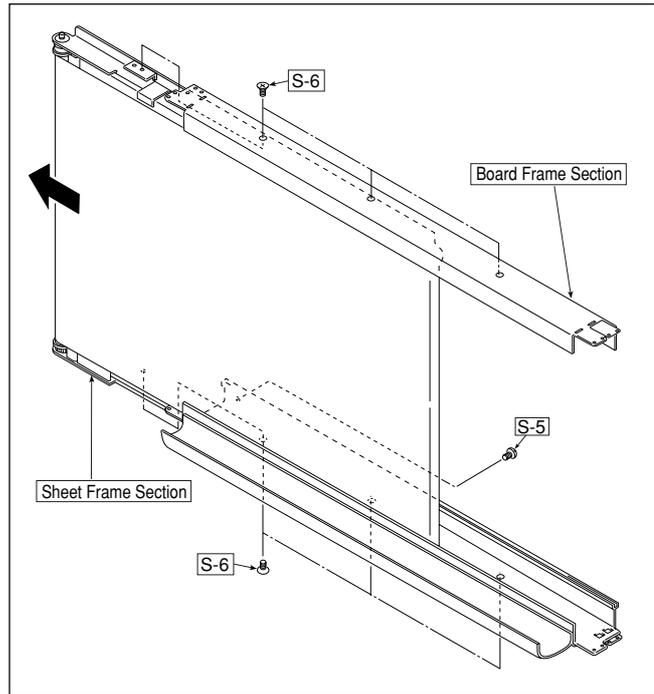

Fig. 7
(See Figures 7 and 8.)
2. Remove the "S-5" screw shown in Figure 7. (Tightening torque: 4.5kgfcm)
3. Remove the "S-6" screw shown in Figure 7. (Tightening torque: 10.0kgfcm)
4. Slide the Sheet Frame Section from the Board Frame Section in the direction indicated by the arrow shown in Figure 7 and remove it.